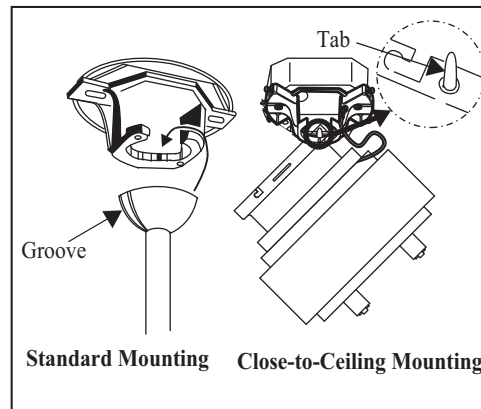

Figure 12
4. Carefully lift the fan assembly up to the ceiling mounting bracket and hang the fan on the tab provided by utilizing one of the holes at the outer rim of the ceiling canopy. (Figure 12) If using standard mounting, seat the hanger ball in the mounting bracket socket. Make sure the tab on the mounting bracket socket is properly seated in the groove in the hanger ball. (Figure 12)
THE TAB AS SHOWN IN FIGURE 12 IS ONLY TO BALANCE THE FAN WHILE ATTACHING WIRING. FAILURE TO HANG AS SHOWN IN FIGURE 12 MAY RESULT IN TAB BREAKING CAUSING THE FAN TO FALL. TAB MUST PASS FROM INSIDE TO OUTSIDE OF CANOPY.